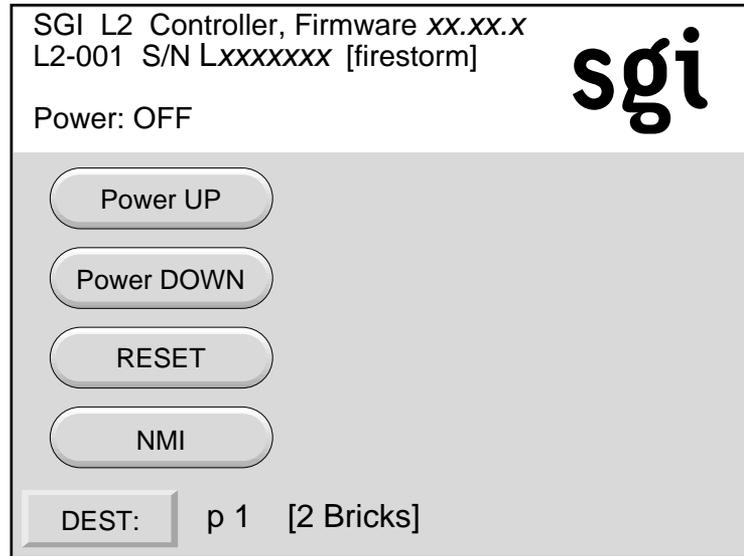

Figure 1-12 Home Window with Partition Destination
- The **New DEST:** field shows *p 1*, which indicates that partition 001 was selected as the new destination. If you select **Apply**, your selection is confirmed and the home window, shown in Figure 1-12, appears. The **DEST:** field shows *p 1 [2 Bricks]*, which indicates that the bricks in partition 1 are the new destination.